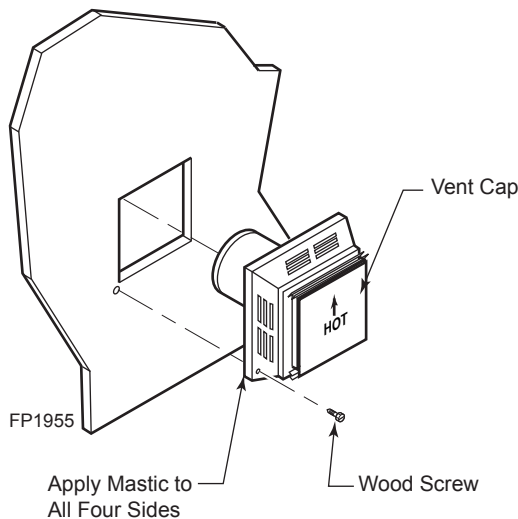

Figure 12 - Install Horizontal Termination
4. Apply a bead of non-hardening mastic around the outside edge of vent cap. Position the vent cap in the center of the 7 1/2" (190 mm) or 9 1/2" (241 mm) hole on the exterior wall with the word "UP" on the vent cap facing up. Insure proper clearance of 1" to combustibles is maintained. Attach the vent cap with four wood screws supplied. *Figure 12.*